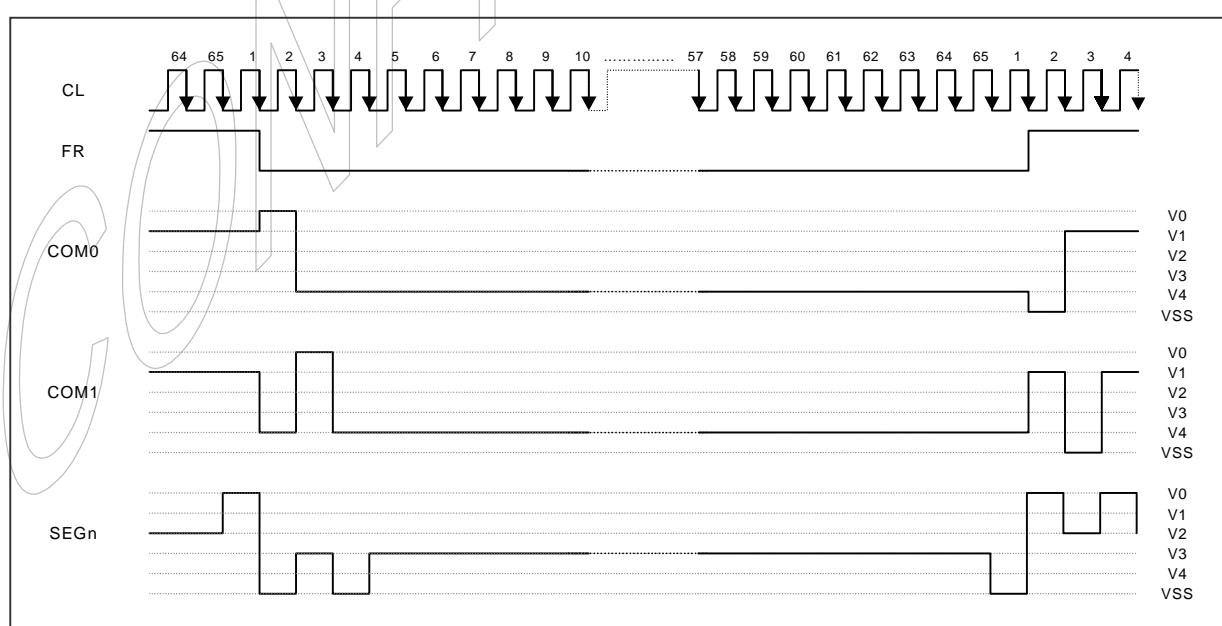

Figure 6-7. 2-frame AC driving waveform (Duty ratio = 1/65)
This circuit generates timing signals to be used for displaying LCD. The display clock (CL) is generated by oscillation clock and CL generates the clock for the line counter and the signal for the display data latch. The line address of DDRAM is generated in synchronization with CL. The 132-bit display data is latched in the display data latch circuit synchronized with CL. Reading to the display data liquid crystal driver circuit is completely independent of access to the DDRAM by the MPU. The display timing generator circuit generates an LCD AC signal (M) which enables the LCD driver to make a AC drive waveform, and also generates an internal common timing signal and start signal to the common driver. Driving 2-frame AC driver waveform and internal timing signal are shown in figure 6-7. When HT0324A is used multiple-chip configuration, the slave chip requires the M, CL, and DISP status.